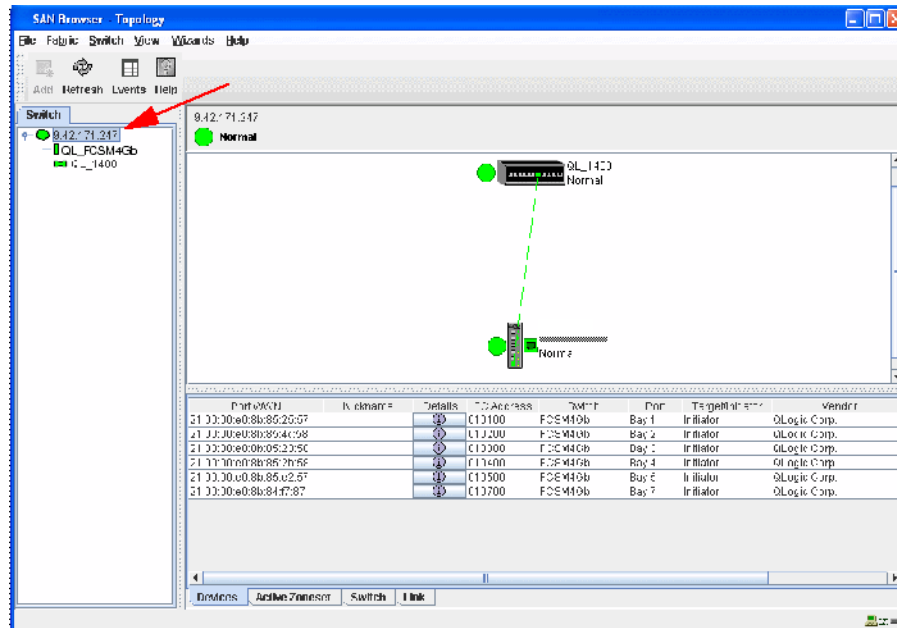

Figure 7-50 SAN Browser Topology window
9. Verify the E-Port (ISL) connection was successful. In the left panel, select the IP address to obtain the Topology view window (Figure 7-50). Verify both switches in the Topology viewing pane are visible. Optionally, you can telnet into the switch and type the command `show fabric` and verify that you see both switches.